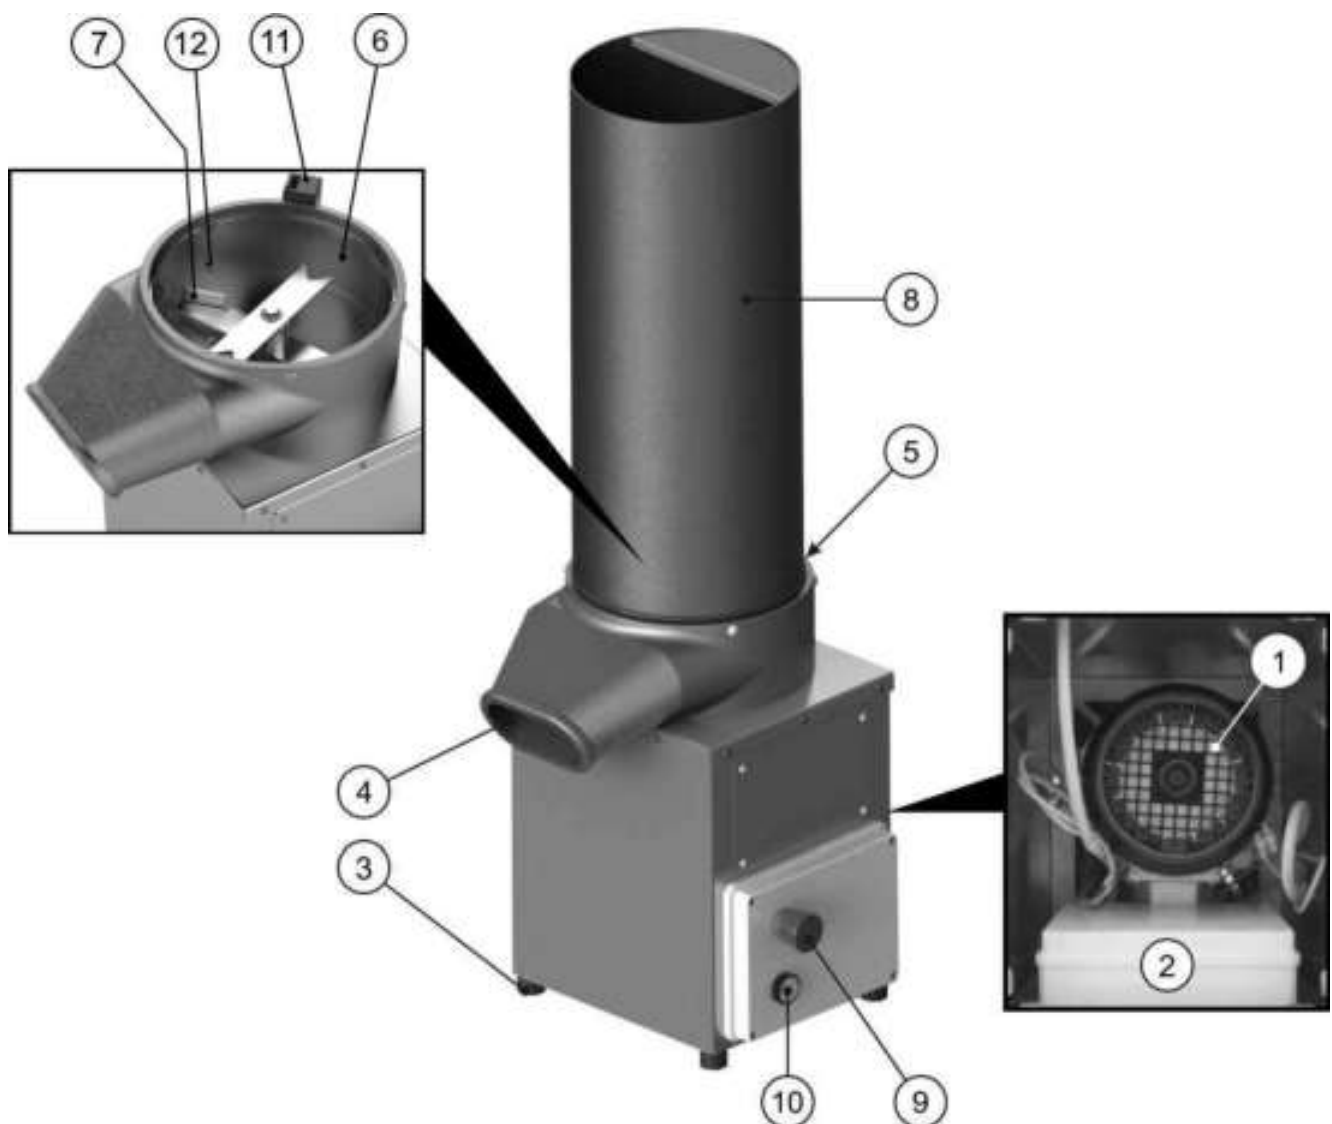

Figure 1
In addition to the support structure, every machine is made up from (Figure 1):
- During the machine operating cycle, the bread should be inserted only through the upper opening of the hopper ref. 8 Figure 1.
- Position the breadcrumbs collection tray under the discharge tube ref. 5 Figure 1
- Press the motor start push-button ref. 10 Figure 1. If the hopper microswitch has been activated and the emergency push-button has not been pressed, the blade will start rotating.